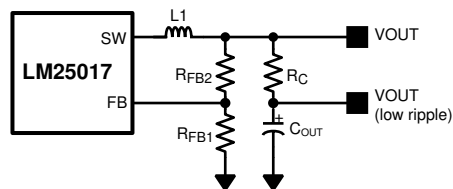

图 7-1. Low Ripple Output Configuration
This regulator regulates the output voltage based on ripple voltage at the feedback input, requiring a minimum amount of ESR for the output capacitor ( $C_{OUT}$ ). A minimum of 25-mV ripple voltage at the feedback pin (FB) is required for the LM25017 device. In cases where the capacitor ESR is too small, additional series resistance may be required ( $R_C$  in 图 7-1).
For applications where lower output voltage ripple is required, the output can be taken directly from a low ESR output capacitor, as shown in 图 7-1. However,  $R_C$  slightly degrades the load regulation.